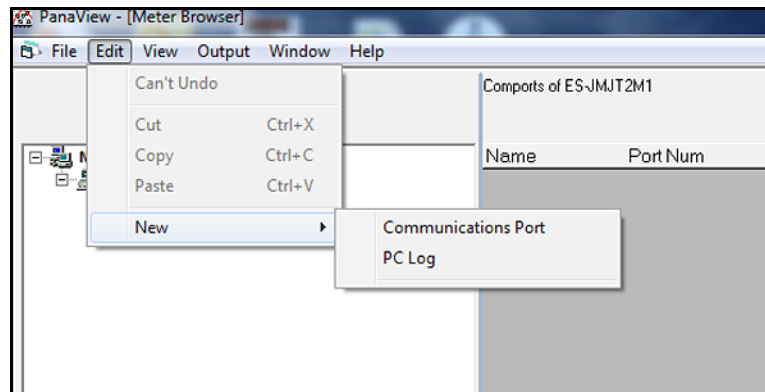

Figure 31: Edit Menu
- Click “*New*” menu option to select it, and a submenu opens with two choices on it (see *Figure 31* below).